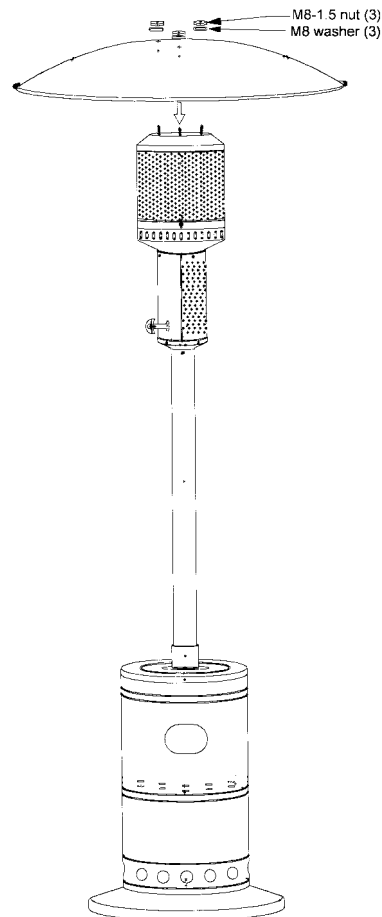

Figure 6: Step 8
Secure the reflector onto the three reflector brackets on the burner assembly using three (3) M8-1.5 hex nuts and three (3) M8 washers. Make sure that the nuts are tight before moving on to step 9. See figure 6.